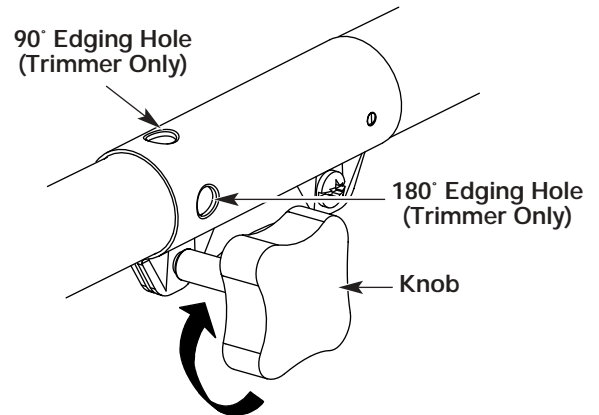

Figure 21
3. Turn the knob clockwise to tighten. See Figure 21.
For edging (when using the line head cutting attachment with EZ-Link™ models), lock the release button of the cutting attachment into the **90° edging hole** or the **180° edging hole**. See Figure 21.